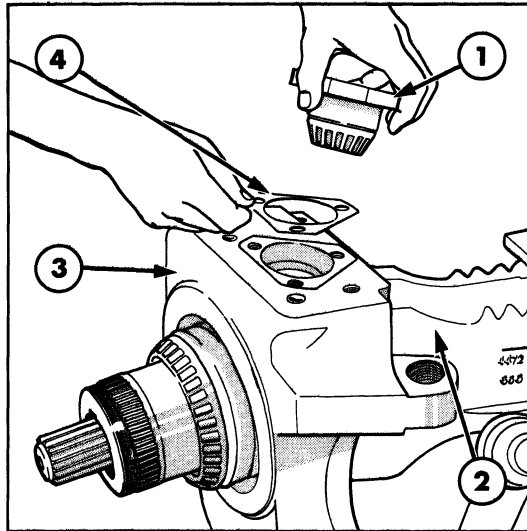

Figure 11
- 6. Remove the swivel pins complete with shims (upper pin only) and bearings, Figure 11. Identify the shims for installation on re-assembly.